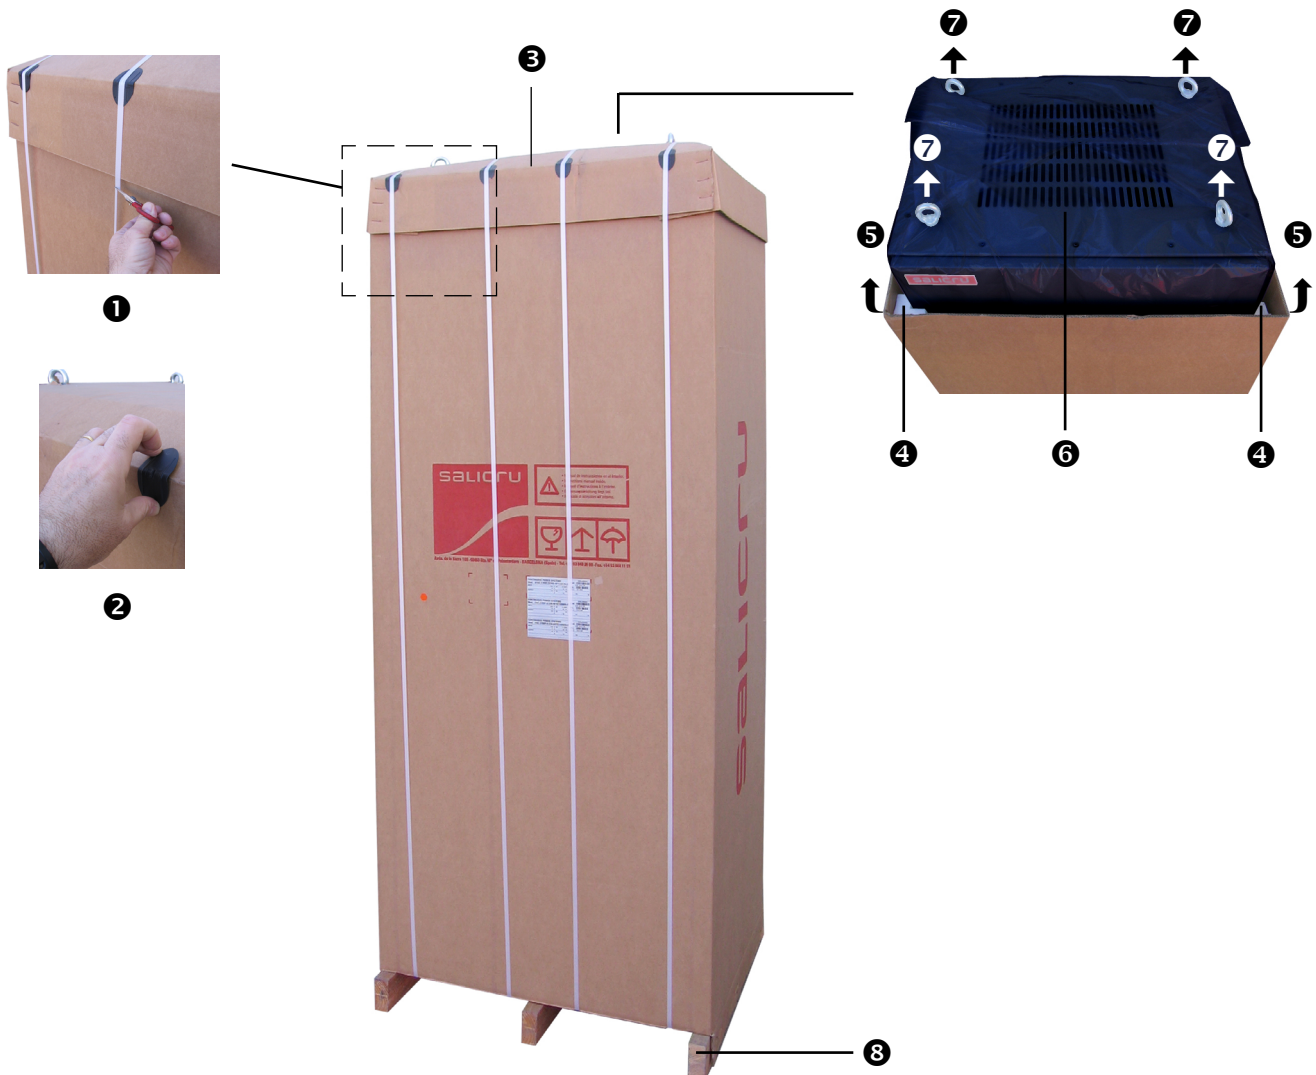

Fig. 13. Unpacking process.
- Connect the cable hose, usually supplied, between terminals (**X11**) - (**X12**) of the system and (**X47**) - (**X48**) of the battery cabinet or bank, respecting the colour of the cables (red for (+), black for (-) and green-yellow for the earth connection (⊕)) as well as the polarity indicated on the label of the device (see Fig. 13).